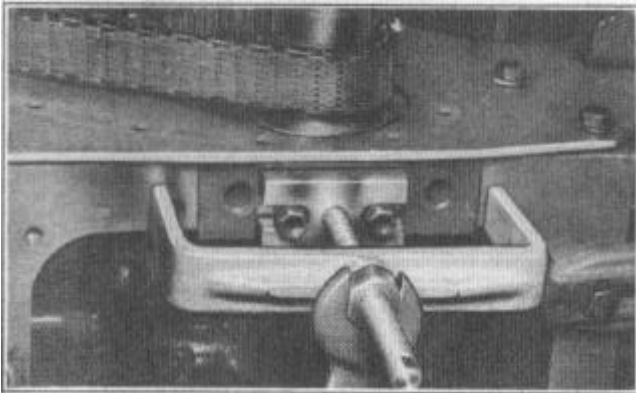

FIGURE 15
2. Remove front and rear main bearing caps with Puller J-2955, Figure 15.
NOTE: Front and rear bearing caps can be easily removed with Bearing Cap Puller J-2955, Figure 15.